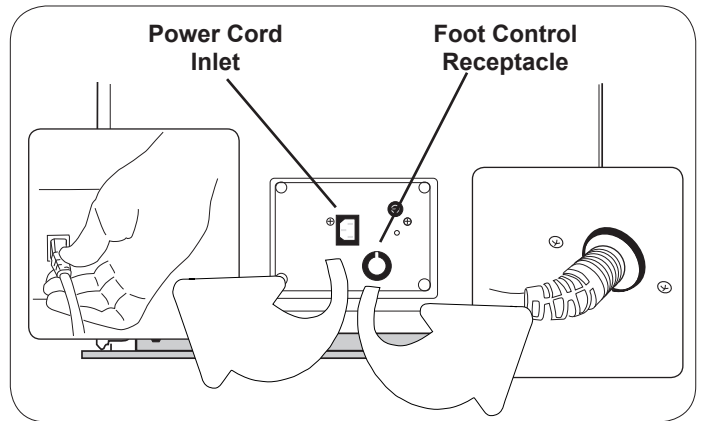

Figure 5. Power Cord and Foot Control Plug-ins
- Insert the foot control cord into the receptacle at the bottom of the rear panel (Figure 5). Make sure the tab on the plug is aligned with the slot in the receptacle.
- Plug the power cord into the receptacle at the bottom of the rear panel (Figure 5). Plug the power cord into a 115 Volt grounded receptacle.